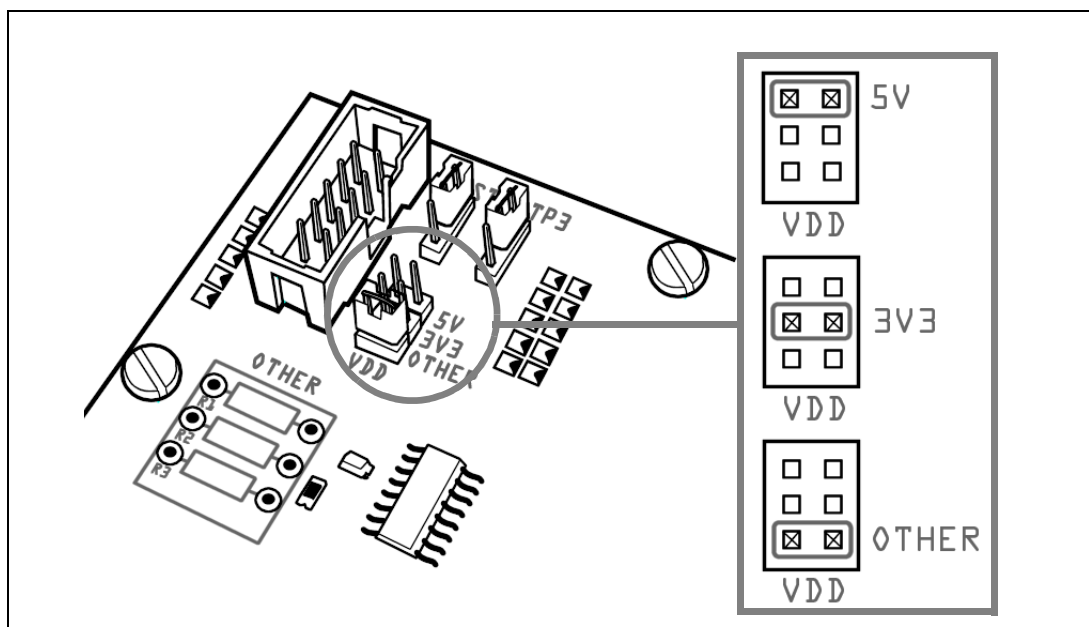

Figure 2: Setting the VDD jumper
To select 3.3V or 5V, simply set the **VDD** jumper to the appropriate position, as shown in Figure 2.
- 3 Set the **VDD** jumper to the **OTHER** position (see Figure 2).